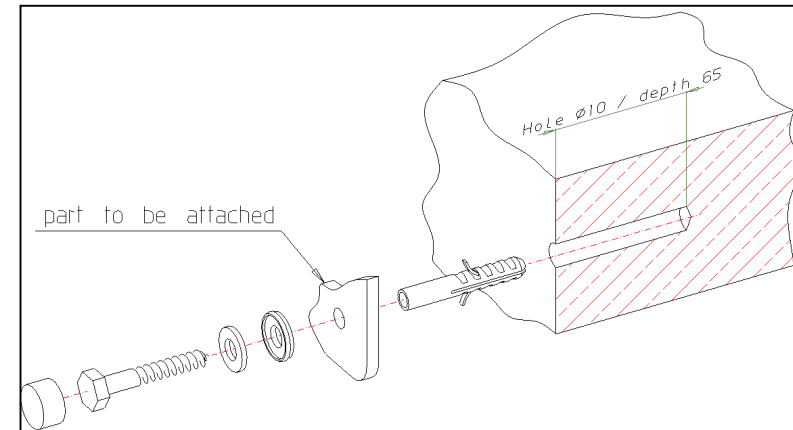

Figure 2. Wall attachment
- Screw the shower seat to the wall preferably using the screws in the R6600 tool set (see figure 2).